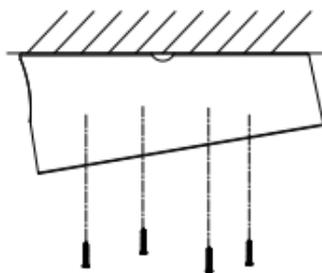

Figure 2-9 Fix the Inclined Ceiling Mount
- Install the inclined ceiling mount to the ceiling with supplied screws, as shown in Figure 2-9.